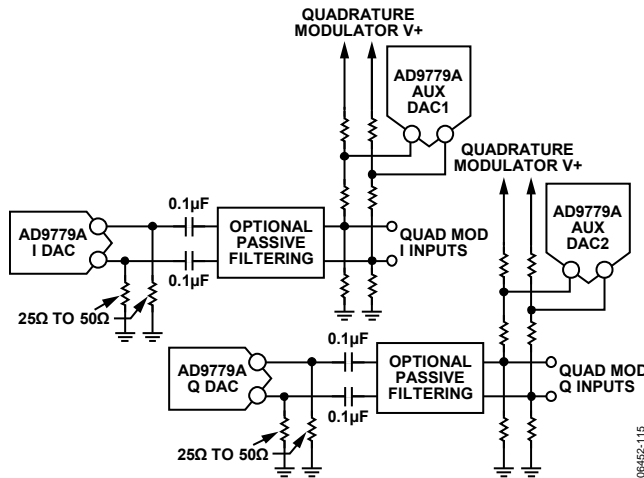
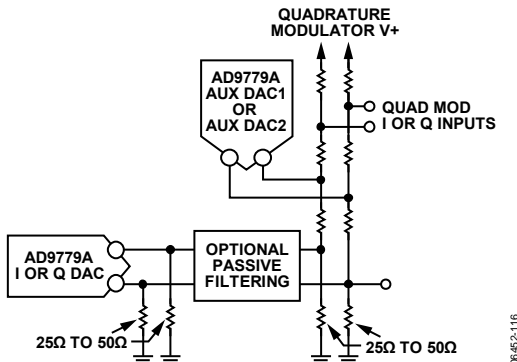

Figure 78. Typical Use of Auxiliary DACs AC Coupling to Quadrature Modulator
Figure 79. Typical Use of Auxiliary DACs DC Coupling to Quadrature Modulator with DC Shift
The auxiliary DACs can be used for local oscillator (LO) cancellation when the DAC output is followed by a quadrature modulator. This LO feedthrough is caused by the input referred dc offset voltage of the quadrature modulator (and the DAC output offset voltage mismatch) and can degrade system performance. Typical DAC-to-quadrature modulator interfaces are shown in Figure 78 and Figure 79. Often, the input common-mode voltage for the modulator is much higher than the output compliance range of the DAC, so that ac coupling or a dc level shift is necessary. If the required common-mode input voltage on the quadrature modulator matches that of the DAC, then the dc blocking capacitors in Figure 78 can be removed. A low-pass or band-pass passive filter is recommended when spurious signals from the DAC (distortion and DAC images) at the quadrature modulator inputs can affect the system performance. Placing the filter at the location shown in Figure 78 and Figure 79 allows easy design of the filter, as the source and load impedances can easily be designed close to 50Ω .